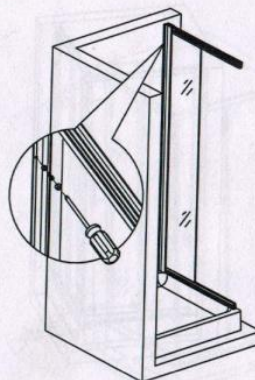

fig 9
8. Fix the **wall profile(2)** to the wall using **round head screw ST 4x45(15)** then cover the **screw cap(19)**. (See Fig 9)